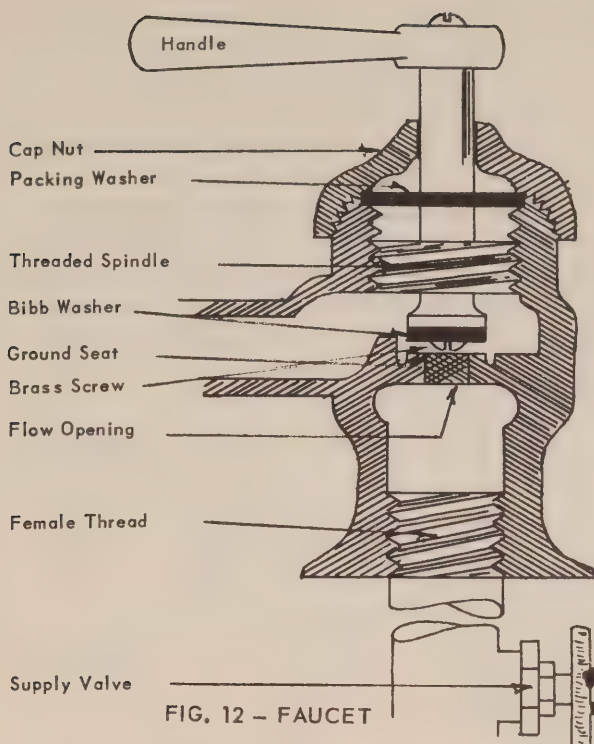

FIG. 12 – FAUCET
3.3 Faucet Taps. Dripping taps are a nuisance and a waste of water and in many sites in the north water isn't the most plentiful commodity. In the case of a hot-water tap, wasted water will also add to the fuel or light bill. However, it is a very simple matter to stop the leak. Refer to Fig. 12 to follow procedure. The first step is to shut off the supply valve, normally located below the fixture, then remove the cap nut and packing. You will be able to remove the spindle from the faucet. At the bottom of the spindle is a brass screw that holds a bibb washer. Remove the screw and install a new washer. If the washer is badly worn the spindle may have damaged the seat in which case the seat will have to be